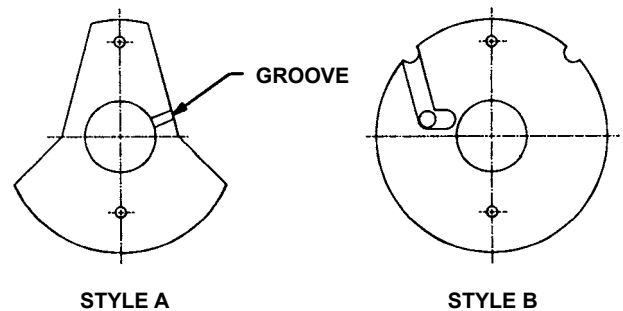

FIGURE 22
**BALANCE PLATE** – If the plate is separate from the bracket and looks like the Style A in **Figure 22**, it can be reversed. The groove should connect the discharge port to the bushing bore. If rotation is changed, the plate is flipped over (not rotated) and the groove would not be visible but will still function properly. If the plate is like Style B, it is **NOT** reversible and a new plate will be required.